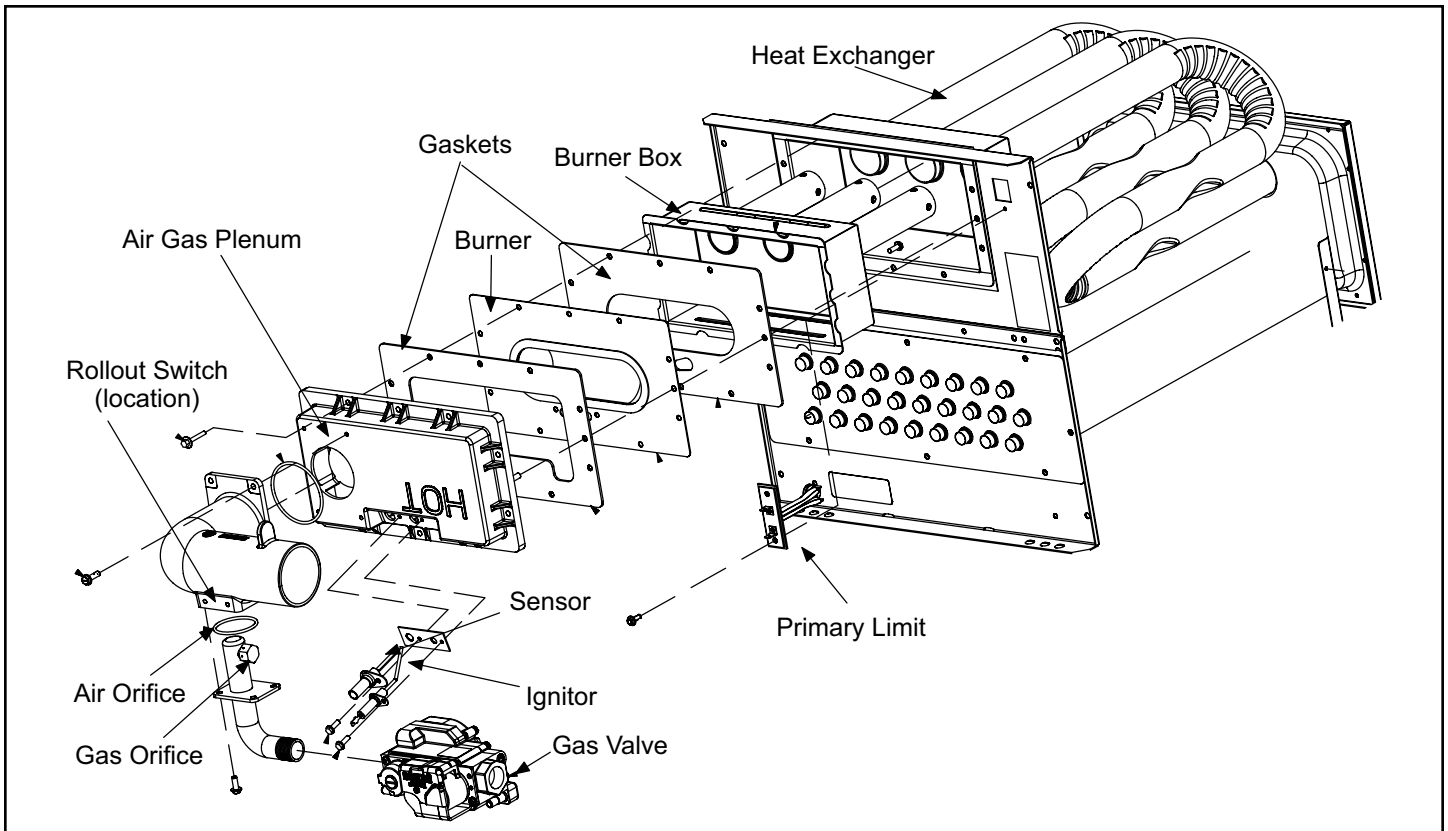

Figure 4. Heating Components
The hot surface ignition control system consisting of an integrated control (Figure 3 with control terminal designations in Table 1 through Table 3), sensor and ignitor (Figure 4). The integrated control and ignitor work in combination to ensure furnace ignition and ignitor durability. The integrated control, controls all major furnace operations. The integrated control also features a RED LED for troubleshooting and two accessory terminals rated at (1) one amp. See Table 4 for troubleshooting diagnostic codes. The nitride ignitor is made from a non-porous, high strength proprietary ceramic material that provides long life and trouble free maintenance.
The auto-reset switch is located on the front of the air gas intake. The switch will safely shut the unit down if excessive temperatures are detected. When the switch senses excessive temperature, the circuit breaks and the ignition control immediately stops ignition and closes the gas valve. See Figure 4.
Burners are factory set and require no adjustment. Always operate the unit with air gas plenum in place. The burner has one orifice located between the gas valve and the air intake assembly (Figure 4). To check or replace the orifice remove the black iron inlet pipe from the gas valve then remove the four screws securing the gas valve to the intake air pipe. The orifice is located in the orifice housing. The burner uses an orifice (see Table 5) that is precisely matched to the burner input. The burner can be removed for service. If burner has been removed, it is critical to replace all gaskets.
A flame sensor is located on the top of the air gas plenum. The sensor can be removed for service without removing the the burner. During operation, flame is sensed by current passed through the flame and sensing electrode. The SureLight control allows the gas valve to remain open as long as flame signal is sensed. To check flame sense signal use the push-button found on the integrated control and go to Field Test Mode. The menu will display the flame signal. See Table 6 for flame signal. See Figure 4.
95G1UHEX units use a nitride ignitor made from a proprietary ceramic material. To check ignitor, measure its resistance and voltage. A value of 39 to 70 ohms indicates a good ignitor. Voltage to the ignitor should be 102 - 132VAC. See Figure 6 for resistance and voltage checks. See Figure 4.